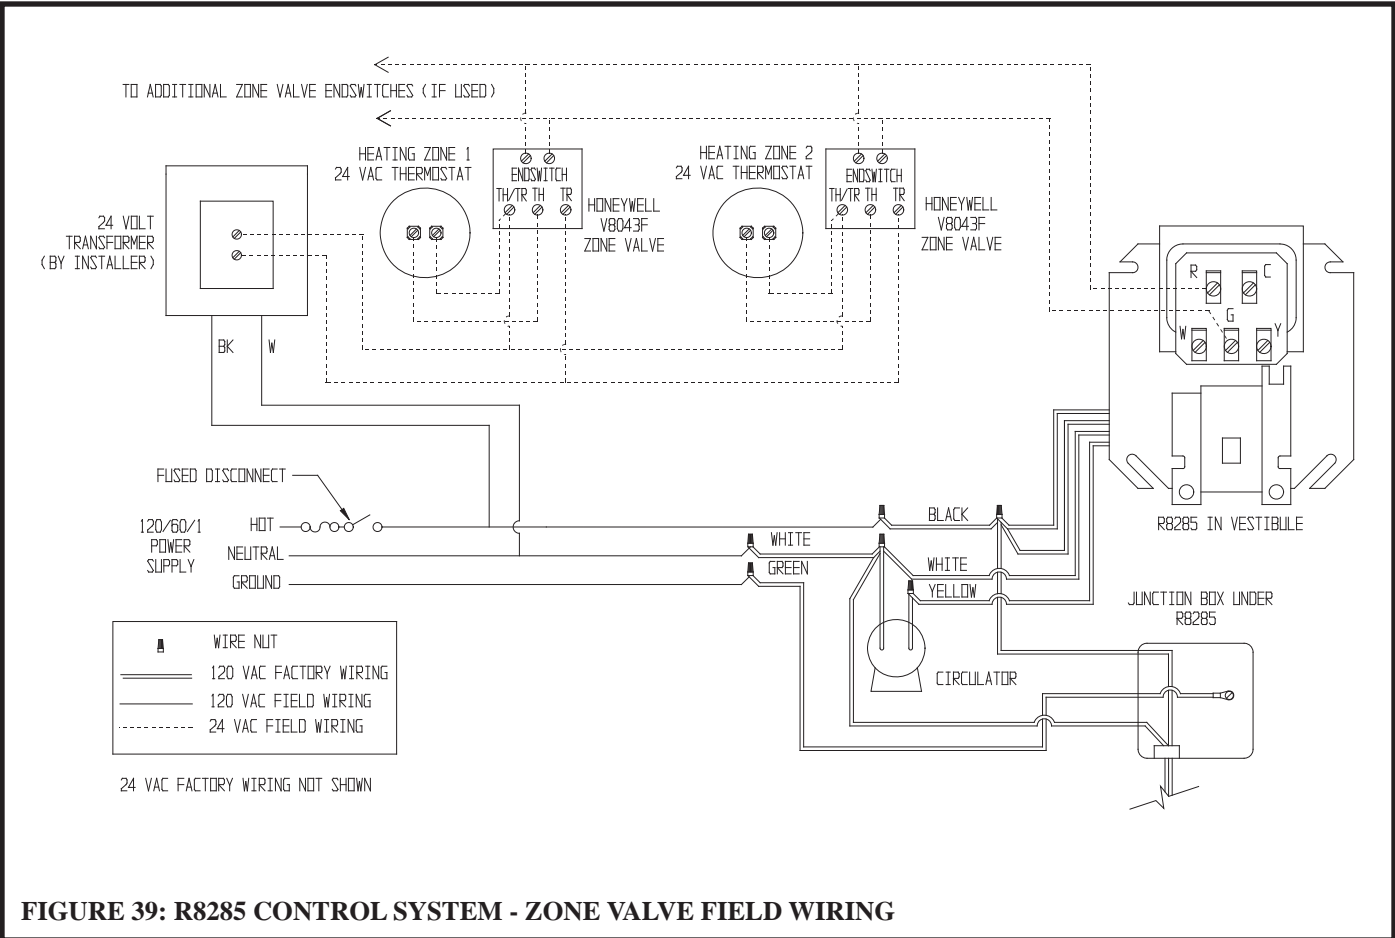

FIGURE 39: R8285 CONTROL SYSTEM - ZONE VALVE FIELD WIRING
- 2) Multiple Zones using Zone Valves – Figure 39 shows wiring for multiple zones using Honeywell V8043F zone valves. This wiring diagram may be used for other 24-volt zone valves as long as they are equipped with end switches. Do not attempt to use the transformer on the R8285 to power the zone valves; use a separate transformer. Up to five V8043Fs may be powered by one 40VA transformer, such as the Honeywell AT87A.